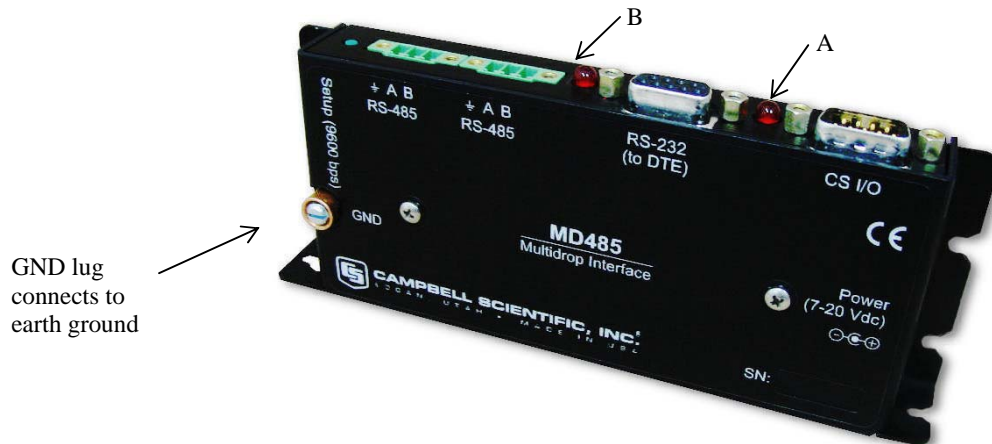

Figure 1. The MD485 has a ground lug that should be attached to earth ground and LEDs that indicate traffic on the ports.
The MD485 has a GND lug (see Figure 1). Connect this GND lug to earth ground with 8 AWG wire. This connection should be as short as possible.
When the RS-485 port is an active port, the LED nearest that connector (labelled B in Figure 1) indicates traffic on the RS-485 port, and the other LED (labelled A) indicates traffic on the other active port (CS I/O or RS-232). When CS I/O and RS-232 are the active ports, the LED between the CS I/O connector and the RS-232 connector (A) indicates activity on the CS I/O port, and the other LED (B) indicates traffic on the RS-232 port. When data is being received and transmitted, the LEDs will flash. The LED for the port that is transmitting will be on more than the LED for the receiving port.